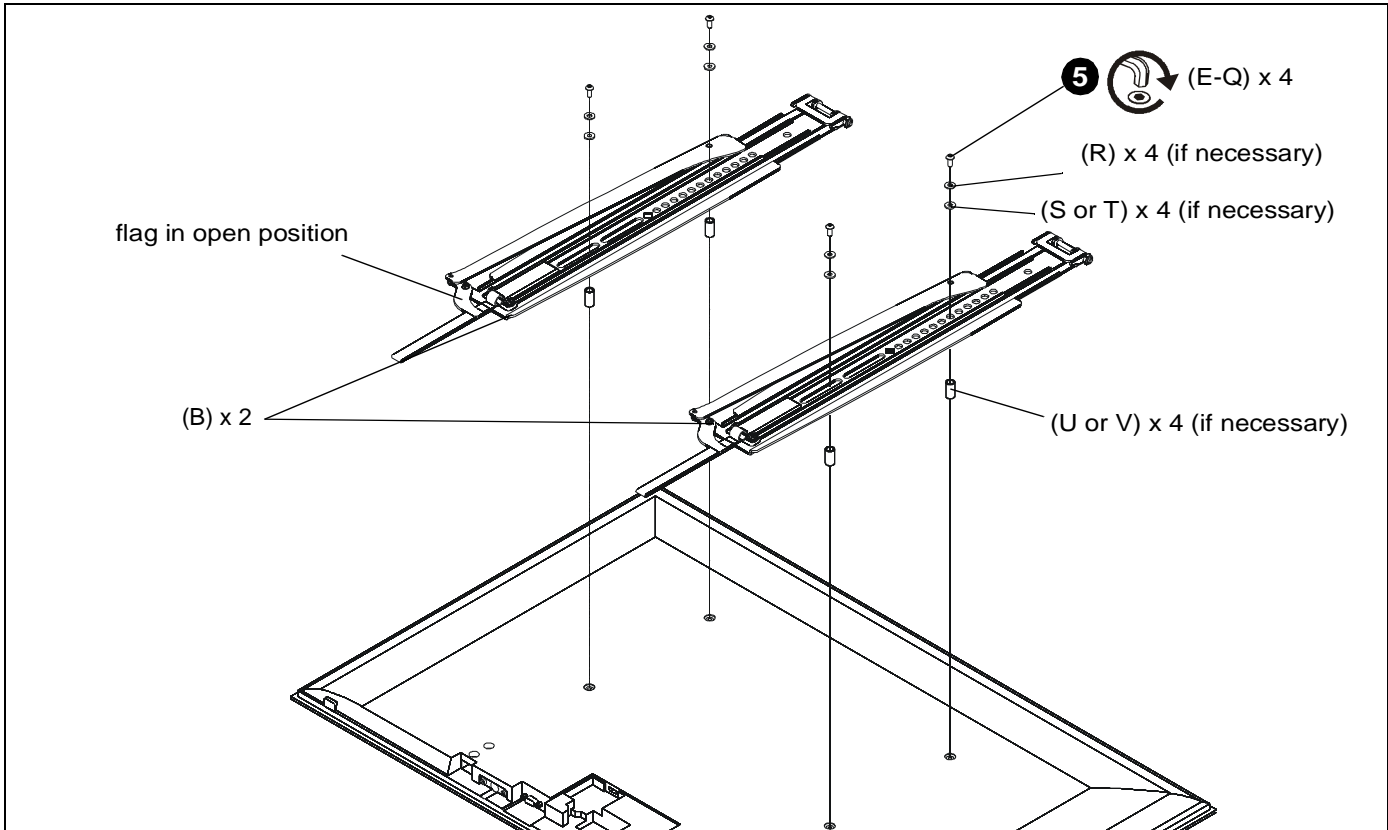

Figure 4
5. Install four button head cap screws (E-Q) through required washers (R) and shoulder washers (S or T), interface brackets (B), spacers (U or V) and into holes on back of display. (See Figure 4)
**NOTE:** Make sure locking flags are in the open position before attaching display to wall plate. Flags are shown in the open position in Figure 4.